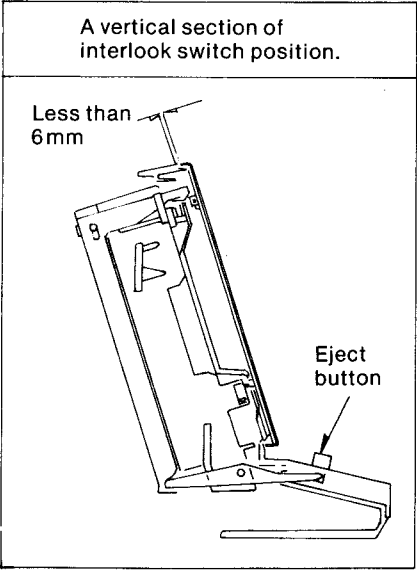

Fig. 1
- (1) Press the power switch on the unit and check to see if the POWER/BATT. LED illuminates.
- (2) Set the function button to the CD (O) position.
- (3) Press the CD eject button to unlock the disc compartment cover. Check to see that the cover opens to its proper position.
- (4) Fully open the disc compartment cover by swinging it toward you.
- (5) Place the disc on the spindle's center, swing the disc compartment cover up and close it by pressing the PUSH TO CLOSE portion. Check to see that the disc loads properly.
- (6) Check to see that the disc rotates and operates properly.
- (7) Press the open button. When the disc compartment cover opens to its proper position, check to see that the gap between the cover and front cabinet is at least 6mm. (Measure the gap with calipers.) (See Fig. 1)